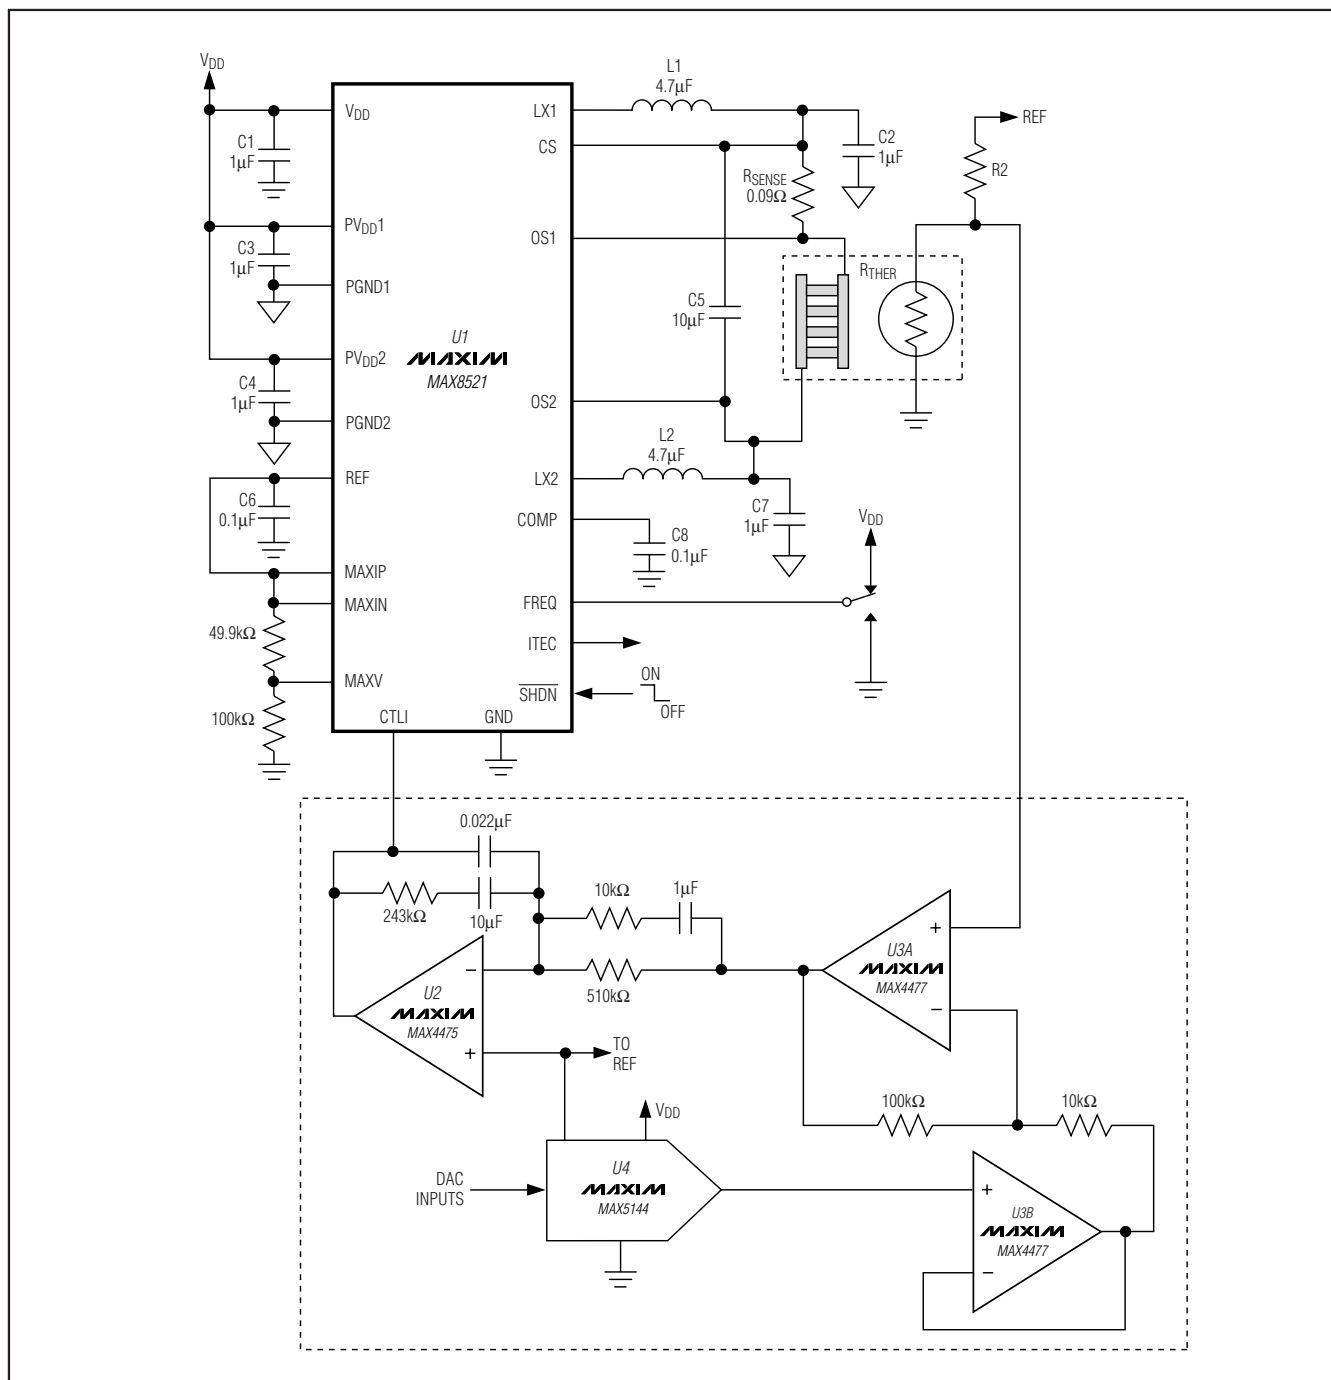

Figure 1. MAX8521 Typical Application Circuit
($V_{DD} = 5V$, circuit of Figure 1, $T_A = +25^\circ C$ unless otherwise noted)
The MAX8520/MAX8521 TEC drivers consist of two switching buck regulators that operate together to directly control the TEC current. This configuration creates a differential voltage across the TEC, allowing bi-directional TEC current for controlled cooling and heating. Controlled cooling and heating allow accurate TEC temperature control to within 0.01°C. The voltage at CTLI directly sets the TEC current. An external thermal-control loop is typically used to drive CTLI. Figures 1 and 2 show examples of the thermal-control-loop circuit.
Table 1. TEC Connection for Figure 1
The MAX8520/MAX8521 include an on-chip voltage reference. The 1.50V reference is accurate to 1% over temperature. Bypass REF with 0.1μF to GND. REF can be used to bias an external thermistor for temperature sensing as shown in Figures 1 and 2.
The common-mode filter capacitors (C2 and C7 of Figure 1) are used as filter capacitors to ground for each output. The output ripple voltage depends on the capacitance, the ESR of these capacitors, and the inductor ripple current. Ceramic capacitors are recommended for their low ESR and impedance at high frequency.
The differential-mode filter capacitor (C5 in Figure 1) is used to bypass differential ripple current through the TEC as the result of unequal duty cycle of each output. This happens when the TEC current is not at zero. As TEC current increases from zero, both outputs move away from the 50% duty-cycle point complementarily. The common-mode ripple decreases, but the differential ripple does not cancel perfectly, and there will be a resulting differential ripple. The maximum value happens when one output is at 75% duty cycle and the other is at 25% duty cycle. At this operating point, the differential ripple is equal to 1/2 of the maximum common-mode ripple. The TEC ripple current determines the TEC performance, because the maximum temperature differential that can be created between the terminals of the TEC depends on the ratio of ripple current and DC current. The lower the ripple current, the closer to the ideal maximum. The differential-mode capacitor provides a low-impedance path for the ripple current to flow, so that the TEC ripple current is greatly reduced. The TEC ripple current then can be calculated as follows:
There are numerous ways to implement the thermal loop. Figures 1 and 2 show designs that employ precision op amps, along with a DAC or potentiometer to set the control temperature. The loop can also be implemented digitally, using a precision A/D to read the thermistor or other temperature sensor, a microcontroller to implement the control algorithm, and a DAC (or filtered-PWM signal) to send the appropriate signal to the MAX8520/MAX8521 CTLI input. Regardless of the form taken by the thermal-control circuitry, all designs are similar in that they read temperature, compare it to a set-point signal, and then send an error-correcting signal to the MAX8520/MAX8521 that moves the temperature in the appropriate direction.
6) To ensure high DC-loop gain and minimum loop error, keep the board layout adjacent to the negative input pin of the integrator (U2 in Figure1) clean and free of moisture. Any contamination or leakage current into this node can act to lower the DC gain of the integrator which can degrade the accuracy of the thermal loop. If space is available, it can also be helpful to surround the negative input node of the integrator with a grounded guard ring.